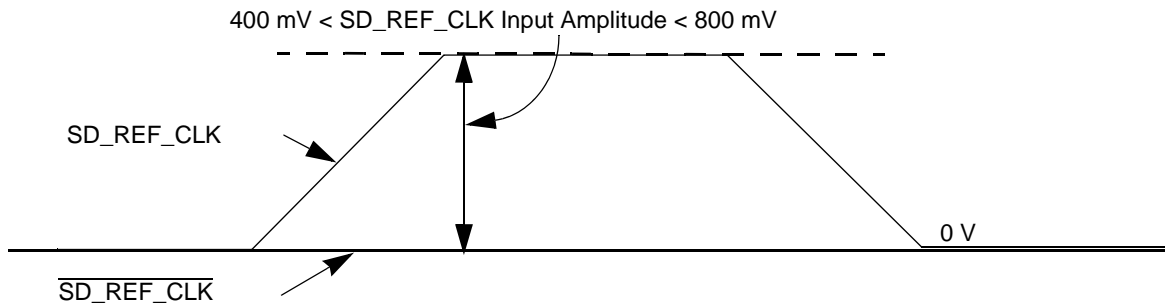

Figure 42. Single-Ended Reference Clock Input DC Requirements
- The SD\_REF\_CLK input average voltage must be between 200 and 400 mV. Figure 42 shows the SerDes reference clock input requirement for single-ended signaling mode.